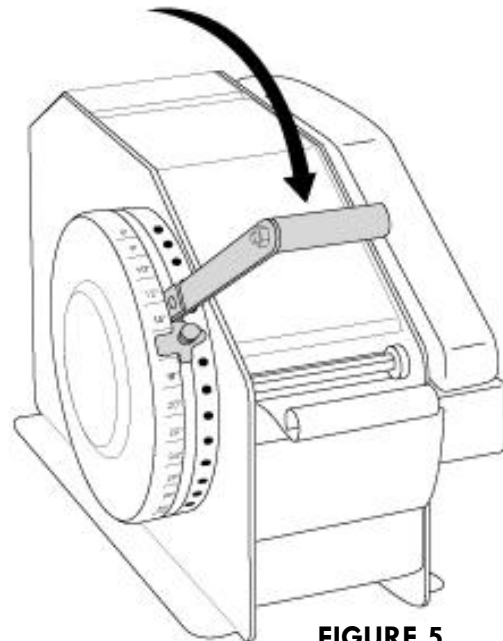

FIGURE 5
3. Pull Handle to Handle Stop then release handle. (Figure 5)